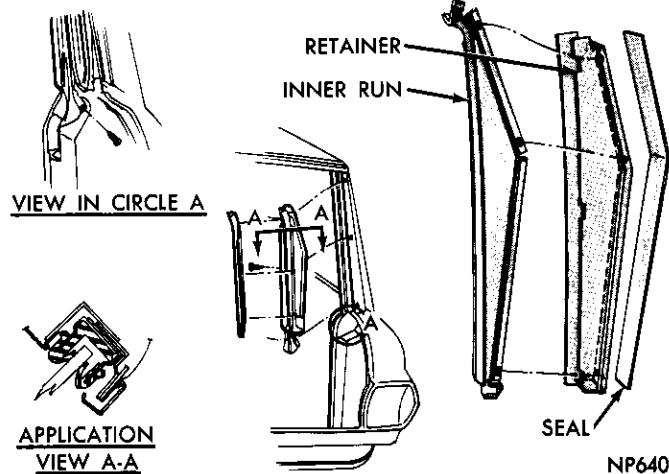

Fig. 78—Upper and Pillar Runs
(1) Remove upper run from retainer (a press fit) (Fig. 78).
(2) Remove pillar run to upper end of tail gate lower opening weatherstrip screw.
(3) Remove pillar run and retainer to pillar screws and remove run and retainer.